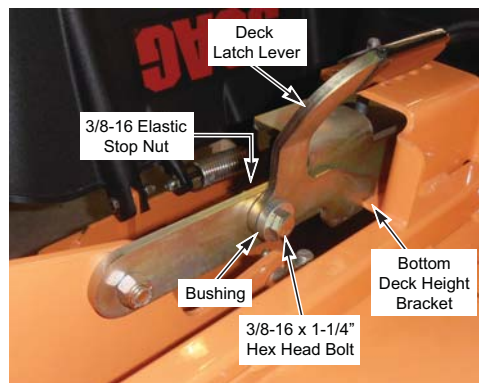

Figure 2. Operate Latch
4. Assemble the deck latch lever onto the right hand deck lift link with the bushing as shown and secure using the 3/8-16 x 1-1/4" hex head bolt and 3/8-16 elastic stop nut supplied with the kit. Do not over-tighten the mounting hardware. The deck latch lever must move freely. See Figure 2.
5. Test the operation of this accessory to confirm that it is functioning properly by raising the deck to the transport position. The notch provided in the latch lever should engage the bottom deck height bracket identified in Figure 2.